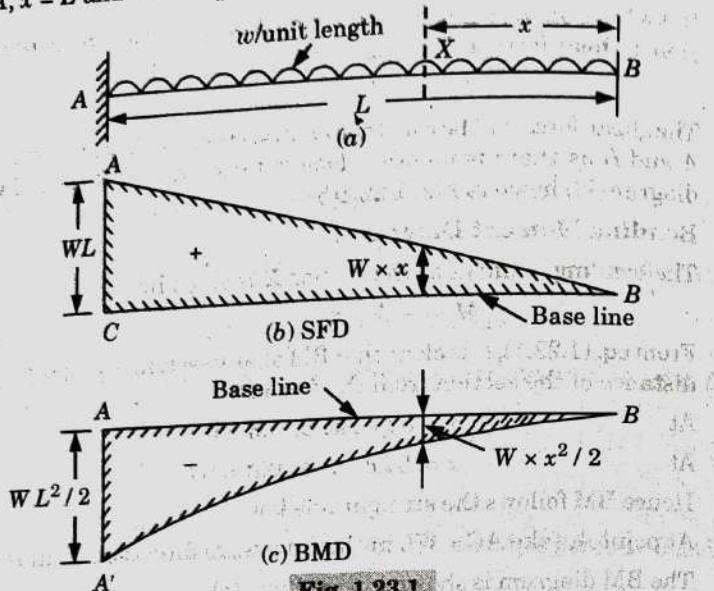

Fig. 1.23.1.
1. Fig. 1.23.1 shows a cantilever of length L fixed at A and carrying a uniformly distributed load of w per unit length over the entire length of the cantilever.